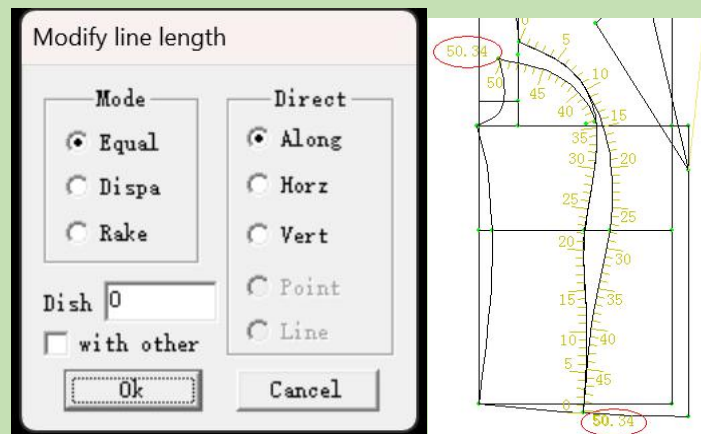

Figure4-60
3. Select different adjustment methods, input relevant data and confirm. ( Figure4-60 )